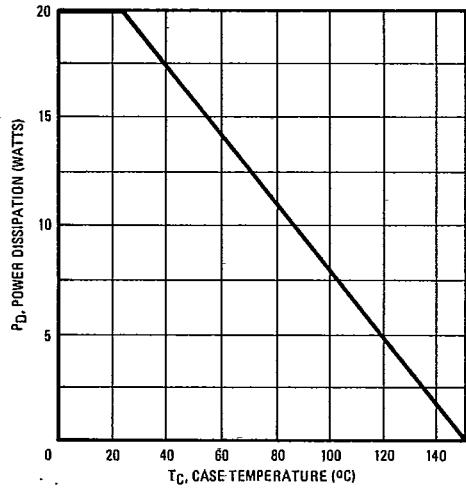

Fig. 14 – Power Vs. Temperature Derating Curve
| $P_D @ T_C = 25^\circ\text{C}$ Max. Power Dissipation | | | 20 (See Fig. 14) | | W |
| Linear Derating Factor | | | 0.16 (See Fig. 14) | | W/K ④ |